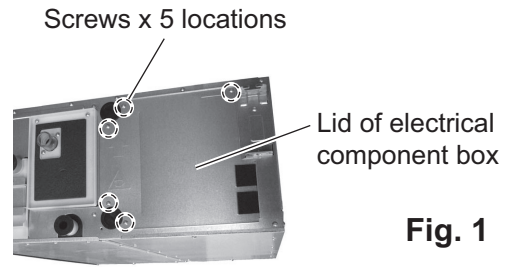

Fig. 1
2. Remove the lid of the electrical component box. (Screws x 5 locations: Fig. 1)